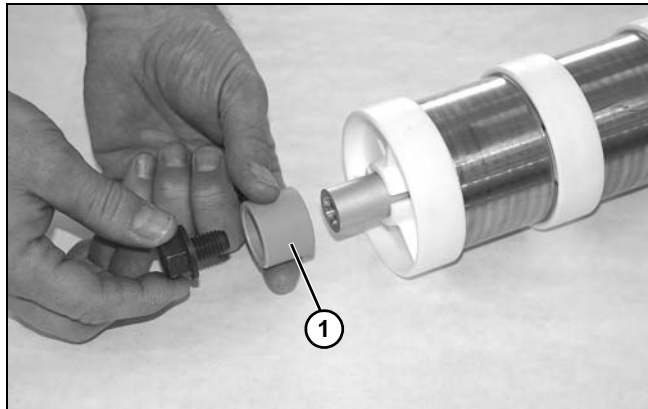

Figure 124
6. Remove tube spacer (**Figure 124, item 1**), as needed, from each side of assembly.